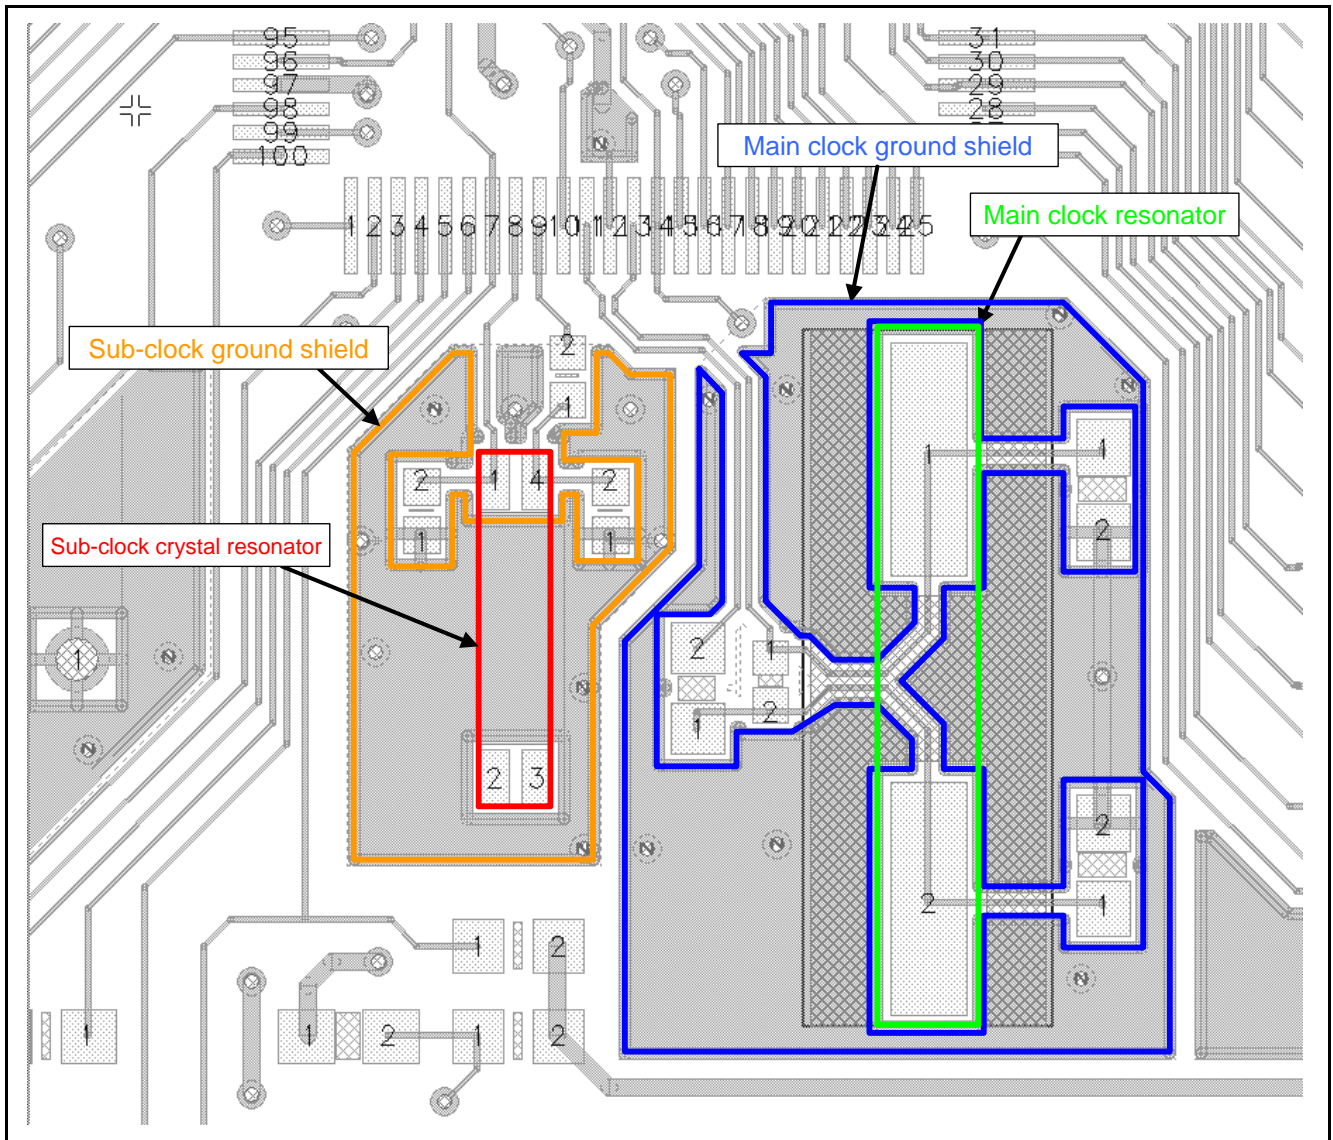

Figure 1.7 Trace Example When Shielding the Main Clock Resonator With a Ground
(1) describes points on wiring the main clock resonator, and Figure 1.7 shows a trace example.